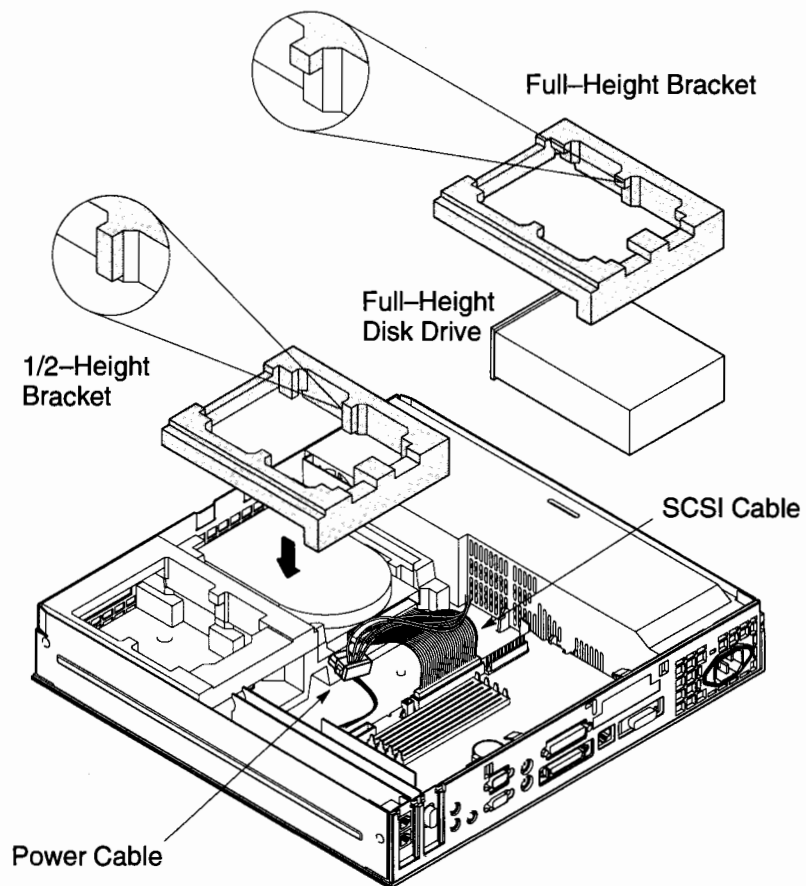

Figure B-14. Installing the Hard Disk Drive Foam Bracket
9. Connect the SCSI and power cables to the disk drive connectors. See Figure B-14 for cable locations.
10. Your workstation shipped with two different top foam brackets to secure a 1/2-height or full-height hard disk drive. Identify the correct foam bracket for the drive that you are installing, and press it into place. See Figure B-14.